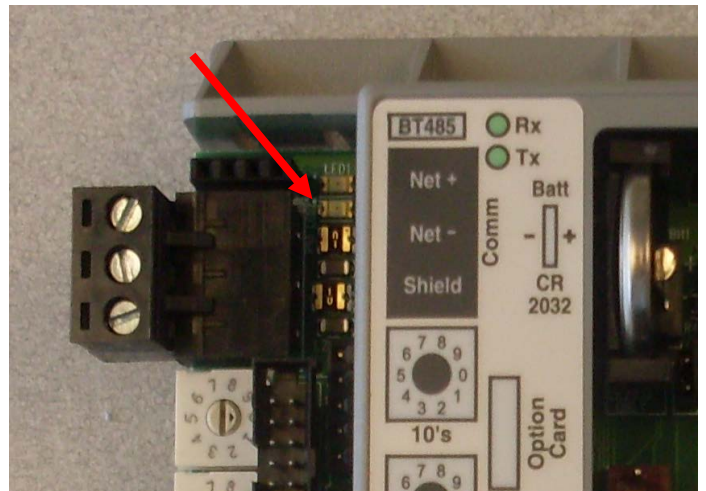

Figure 2 - Network LEDs
The first bank of LEDs is located in the upper left-hand corner as shown in Figure 2. The LEDs (Rx and Tx) flash repeatedly when the controller is communicating with the network.
2. Disconnect the network plug Figure 2